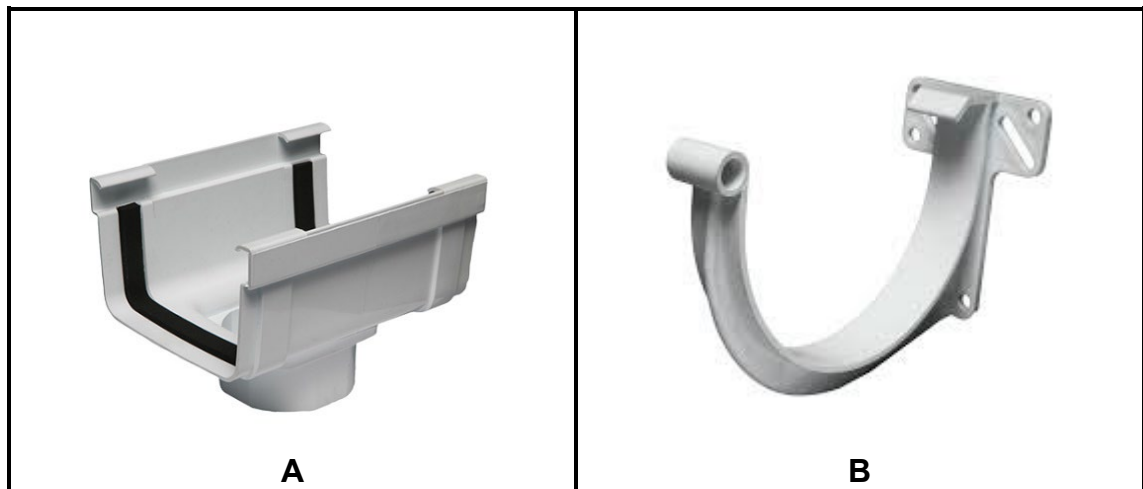

FIGURE 5.2
5.2 FIGURE 5.2 shows two components that are used in a rainwater system.